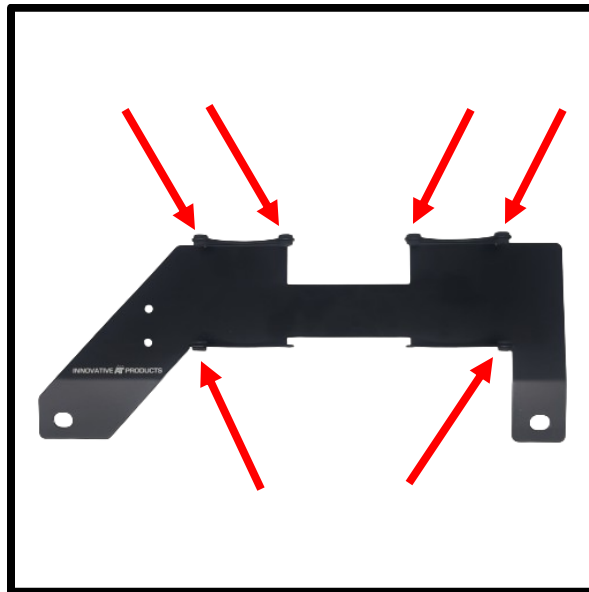

Figure 2
- 1-B) Install the six (6) grommets in the positions as shown in **Figure 2**. **Note:** The two (2) open holes are optional. They are not required for the installation. Installation of the bolts (after grommets are installed) can be difficult.